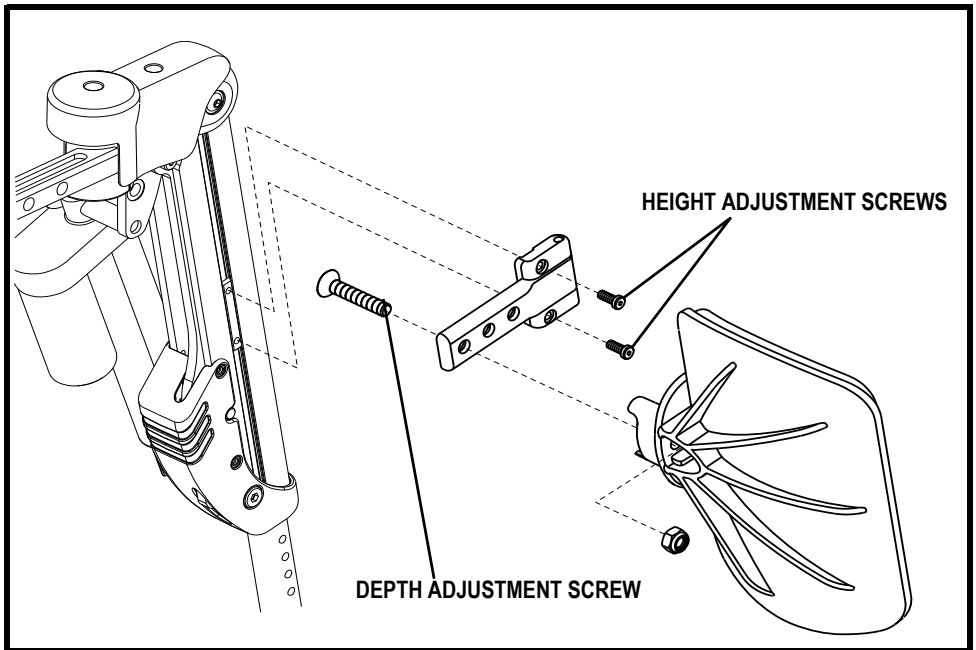

Figure 16. Swing-away Calf Pad Adjustment (ALR Shown)
The power articulating leg rests maintain the correct knee-to-heel measurements when the user's legs are being elevated and can be adjusted either as a pair or individually. **See figure 13.** The power articulating leg rests provide 70° or 80° of movement, have standard swing-away/height and depth adjustable calf pads (**see figure 16**), accept all foot plates, and have a maximum weight capacity of 300 lbs. (136 kg). They are available with all power bases that support upgraded electronics and with the Synergy Seating System. The power articulating leg rests operate through the power chair controller or toggle switch.
The center-mount articulating foot platform maintains the correct knee-to-heel measurements when the user's legs are being elevated. **See figure 15.** The center-mount articulating foot platform elevates to 170°, has standard calf pads that are depth and height adjustable (see figure 16), has a maximum weight capacity of 450 lbs. (204 kg) and has an operating temperature of 40°F (4°C) to 105°F (40°C). It is available with all TRU-Balance Power Positioning Systems and with the Synergy Seating System. The articulating foot platform operates through the power chair controller or toggle switch.
1. Remove the height adjustment screws. See figure 16.
1. Remove the depth adjustment screw. See figure 16.